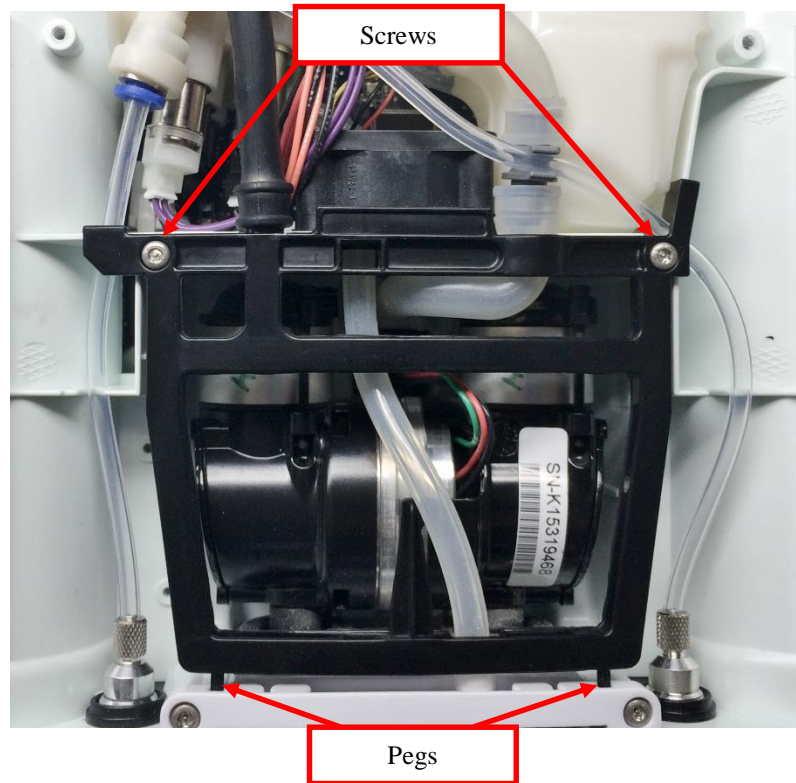

Figure 6: Tube Bracket and Muffler Assembly
2. Remove the two screws holding in the Tube Bracket and Muffler Assembly. Then slide the bracket pegs out of the chassis (Figure 6).
4. Slide the Tube Bracket and Muffler Assembly pegs back into the slots in the chassis. Align the bracket back into place and reinstall the two screws to 4 in-lbs. (Figure 6).